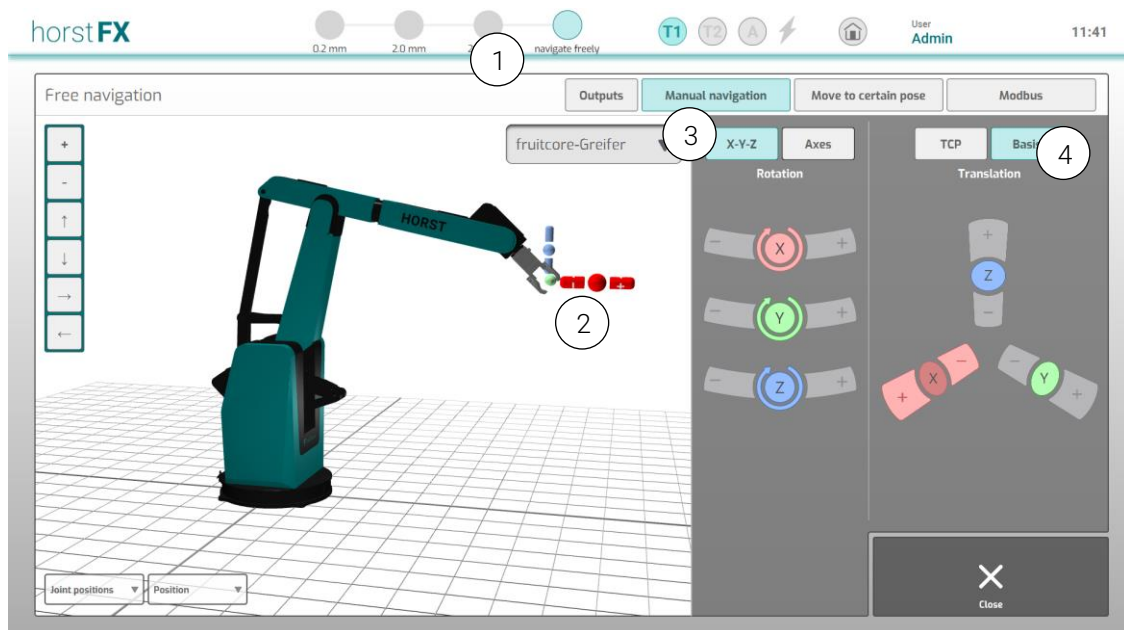

Fig. 5-3: Free travel – X-Y-Z – Base menu
In the menu bar (Fig. 5-3) (1) you can set how far the robot will move when you hold down the + or – button. Move in **Jogging mode** (step by step in millimeters) or continuously in **Free** mode.
To illustrate the directions of movement, the selected coordinate system is always shown on the robot model with the corresponding axis colors (Fig. 5-3) (2). Here, the origin of the represented coordinate system is in the TCP of the robot model.